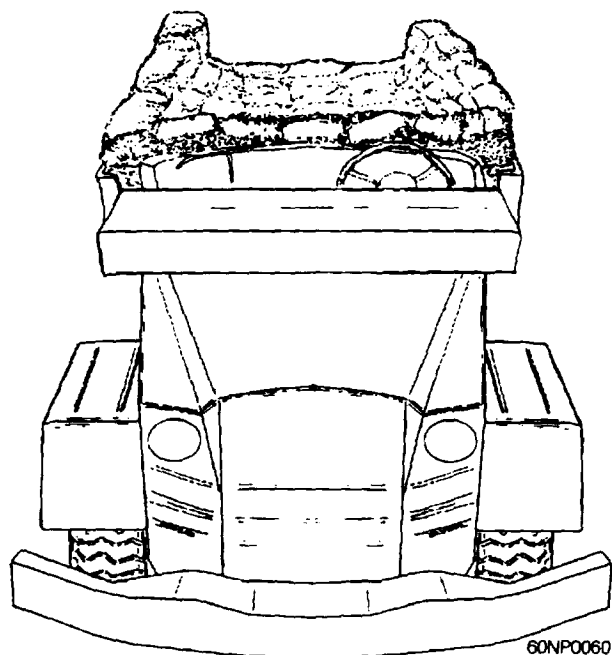

Figure 5-1.—Hardened vehicle.
3. Sandbags are placed on the floorboards and bed of the vehicle. For a 6 by 6 truck, a single row of sandbags is placed on the bed of the truck. Then sandbags are stacked five layers high down each side of the truck. This provides protection from most small arms. A total of 70 to 100 sandbags is required for each truck. This load plus troops and equipment weight permits off-highway operation without undue wear on the vehicle. A wooden bench or packs rigged down the middle of the bed provide the troops with seats (fig. 5-1.)